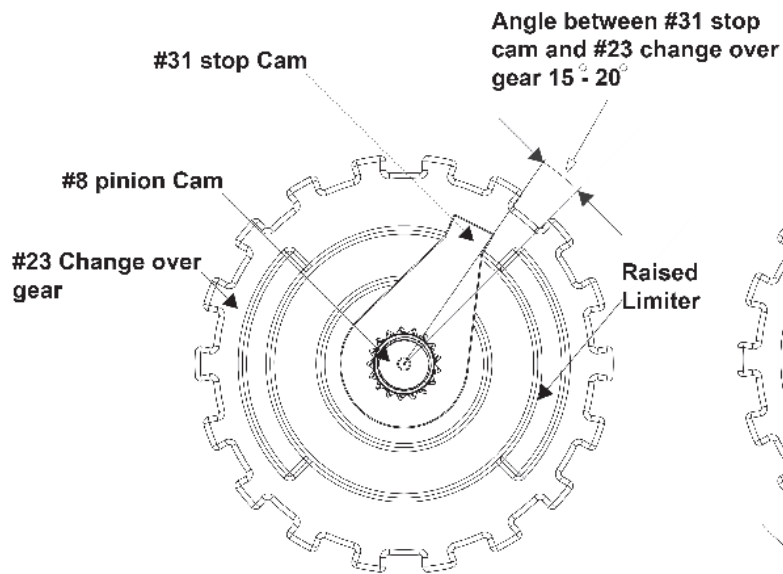

Figure 1
18. Install the stop cam #31, with the change gear fully seated the stop cam and raised limiter shall be between  $15^{\circ}$  -  $20^{\circ}$  apart (Fig. 1), now turn the change gear counter clockwise until the cam and limiter mate (Fig. 2).